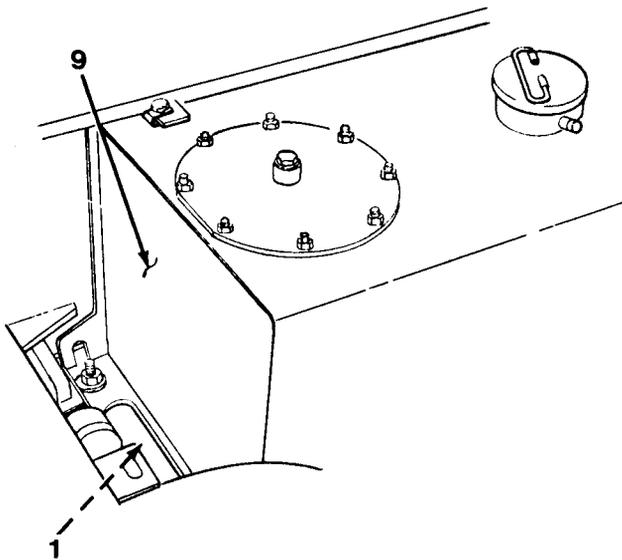

Figure 13-1
4. Remove drain plug and O-ring (1) and drain hydraulic reservoir (9, Figure 13-1) into suitable container.
11. Using suitable hoist and sling, lift hydraulic reservoir (19, Figure 13-1) out of carrier.
12. Remove four washers (7).